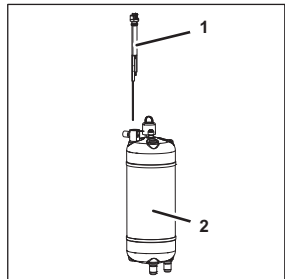

Figure 105
3. Turn the level electrode (Figure 105/1) and remove from the carbonator tank (Figure 105/2).
5. Attach the new level electrode (Figure 105/1) to the carbonator tank (Figure 105/2) by turning it.